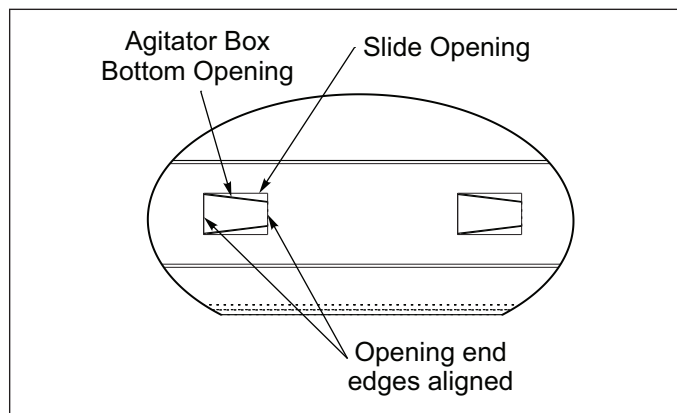

Figure 5-10: Shifter Handle Set at “6”
- When the Shifter Handle is set to “6” (open), the Agitator Box bottom opening end edges are aligned with the Slide opening end edges. Agitator Box bottom opening is completely visible. **See Figure 5-10.**